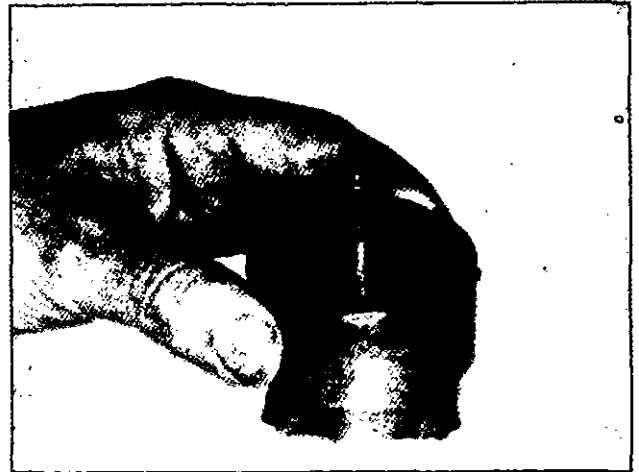

Fig. 3-16, (F5279). Install the governor weight carrier shield.
3. Install the upper governor carrier weight shield over the weights if required, Fig. 3-16. (The shield can be used when the governed pump rpm is above 2300.) Do not use the